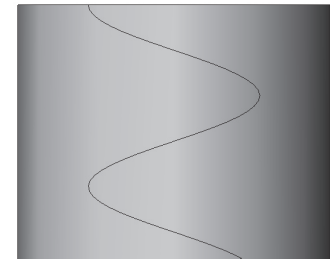

Fig. 22
Step 4. Click **Line**  (L) on the Sketch toolbar.
Step 5. Draw four lines as shown in **Fig. 22**. Draw the side lines vertical. Keep sketch out in space and not attached to the eye screw.